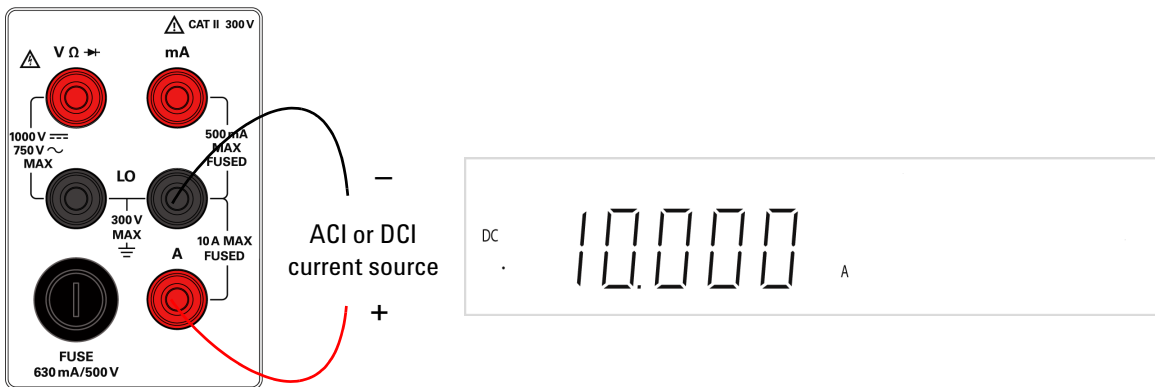

Figure 1-13 ACI RMS or DCI (10A) terminal connection and display
- 4 Connect the red and black test leads to the A input terminal as shown in **Figure 1-13**.